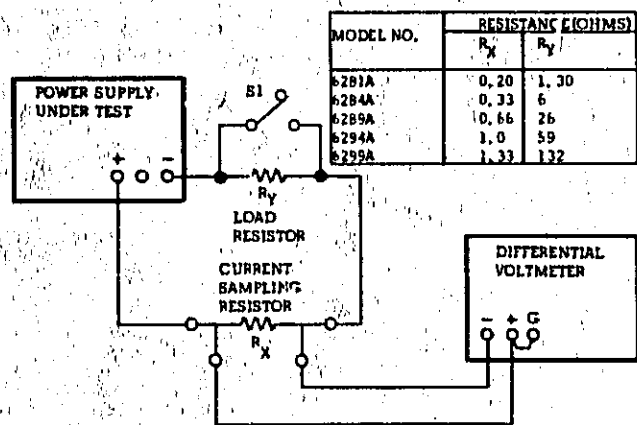

Figure 5-4. Output Current Test Setup
a. Connect test setup shown in Figure 5-4 leaving switch S1 open.
- Connect test setup as shown in Figure 5-4.
a. Utilize test setup shown in Figure 5-4 leaving switch S1 open throughout test.
a. Use test setup shown in Figure 5-4, except connect AC voltmeter across sampling resistor instead of differential voltmeter.